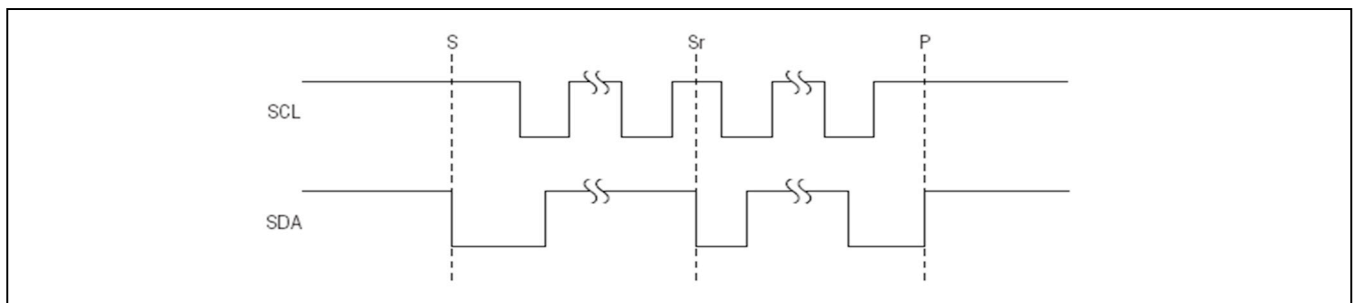

Figure 26. START, STOP, and REPEATED START Conditions
The MAX98372 features an I²C 2-wire serial interface consisting of a serial data line (SDA) and a serial clock line (SCL). SDA and SCL facilitate communication between the IC and the master at clock rates up to 400kHz. Figure 26 shows the 2-wire interface timing diagram. The master generates SCL and initiates data transfer on the bus. The master device writes data to the IC by transmitting the proper slave address followed by the register address and then the data word. Each transmit sequence is framed by a START (S) or REPEATED START (Sr) condition and a STOP (P) condition. Each word transmitted to the IC is 8 bits long and is followed by an acknowledge clock pulse. A master reading data from the IC transmits the proper slave address followed by a series of nine SCL pulses. The IC transmits data on SDA in sync with the master-
SDA and SCL idle high when the bus is not in use. A master initiates communication by issuing a START condition. A START condition is a high-to-low transition on SDA with SCL high. A STOP condition is a low-to-high transition on SDA while SCL is high (Figure 26). A START condition from the master signals the beginning of a transmission to the IC. The master terminates transmission, and frees the bus, by issuing a STOP condition. The bus remains active if a REPEATED START condition is generated instead of a STOP condition.